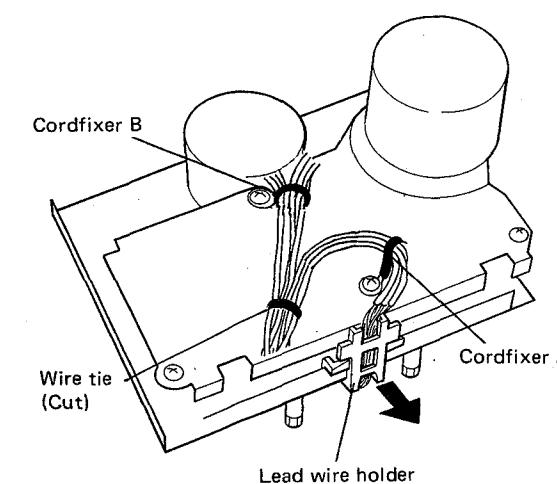

Fig. 3-4-1
(see Fig. 3-4-1)
3. Remove the lead wire holder. (see Fig. 3-4-1)